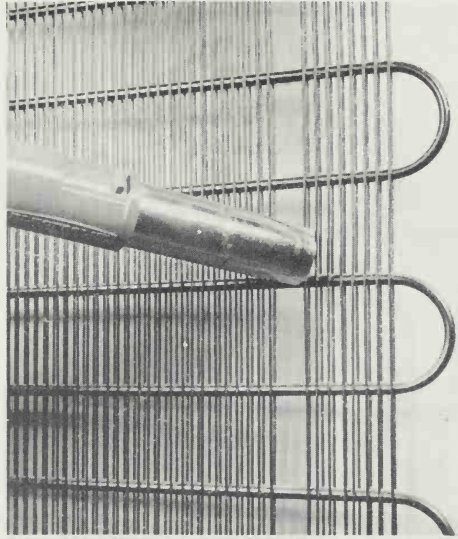

Figure 3. Cleaning the condenser coils frequently helps maintain a unit's efficiency, reduces chance of failure.
1. Clean the condenser coils periodically if they are exposed. Dirt on an exposed condenser blocks circulation and drastically reduces refrigerating efficiency. You can use a long-handled bristle brush or vacuum cleaner (Figure 3).